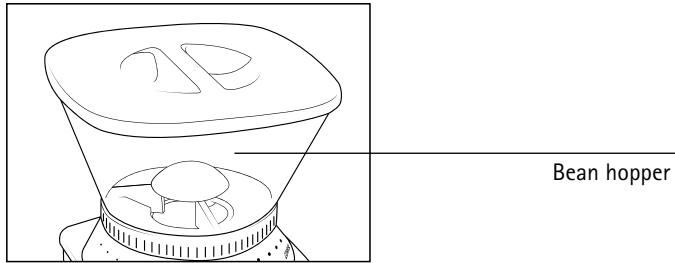

Figure 1
- Fill the bean hopper with beans, making sure that the lid closes securely (see figure 1).